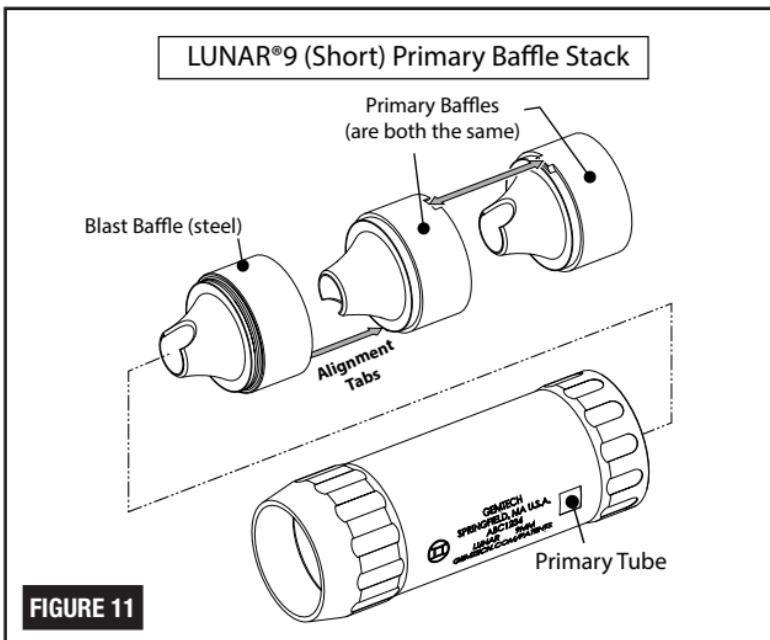

FIGURE 11
2. Slide the Primary baffle stack into the primary tube as shown in FIGURE 11.